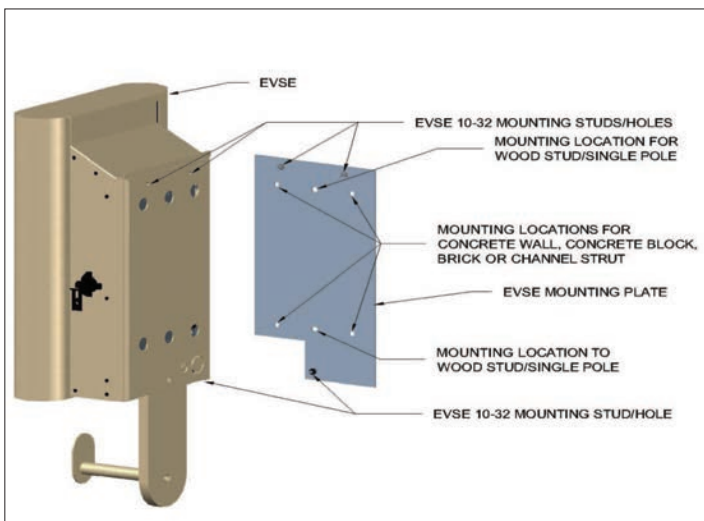

Figure 10. Unit and Mounting Plate.
- Step 1:** Remove the mounting plate from the back of the EVSE unit by placing the unit on a solid non-scratch surface and opening the unit by turning the latch on the side. Remove the three nuts on the 10-32 studs that attach the mounting plate to the unit. The location of these mounting studs can be seen in Figure 10. Save these nuts and washers as they will be needed to re-attach the unit later in the installation.
- Step 1:** Remove the mounting plate from the back of the EVSE unit by placing the unit on a solid non-scratch surface and opening the unit by turning the latch on the side (for details, see Section 6. Instructions for Opening Door Latch). Remove the three nuts on the 10-32 studs that attach the mounting plate to the unit. The location of these mounting studs can be seen in Figure 10. Save these nuts and washers as they will be needed to re-attach the unit later in the installation.